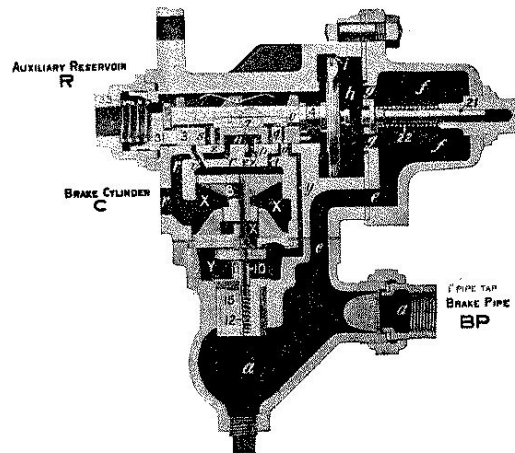
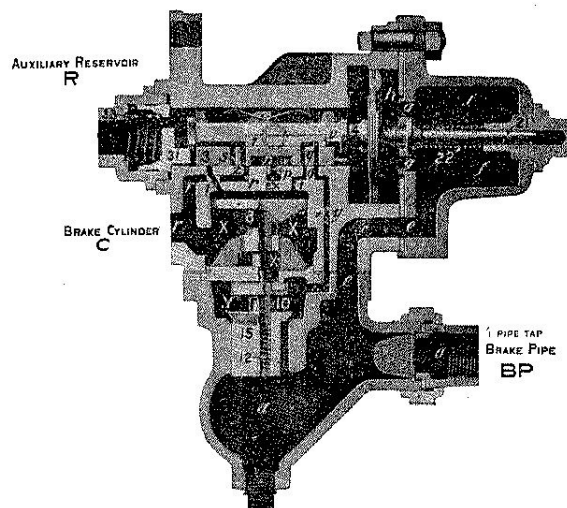
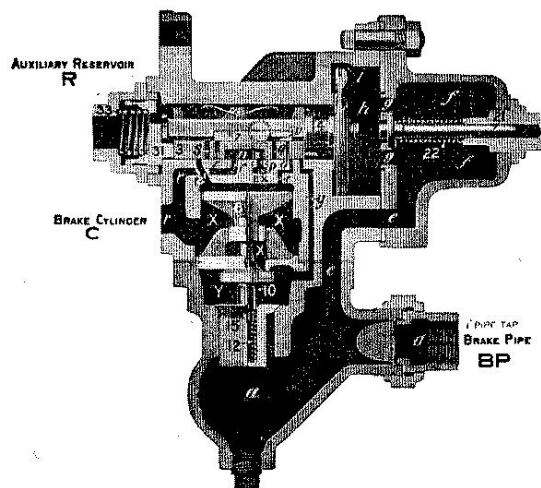

Fig. 13: Full Release and Charging Position.
Fig. 14: Quick Service Position.
Fig. 17: Retarded Release and Charging Position.
A. When air is admitted to the brake pipe it is free to enter the triple at "a" (see Fig. 13) and flow through the passage "e" to chamber "f", thence through port "g" to chamber "h" in front of the triple valve piston 4. Pressure forming in chamber "h" will force the piston to the left until its packing ring uncovers the feed groove "i" in the bushing, thus creating a communication between chamber "h" and the slide valve chamber. Brake pipe air will now be free to flow past the piston to the slide valve chamber and out at "R" to the auxiliary reservoir. Air will continue to feed through the groove "i" until the auxiliary reservoir and brake pipe pressures are equal, and it is then we say that the brake is fully charged. Brake pipe air entering chamber "a" will lift the check valve 15, and charge chamber "Y" to brake pipe pressure. When a gradual reduction of brake pipe pressure is made, as in a service application of the brakes, the pressure being reduced in chamber "h", auxiliary reservoir pressure will move the piston 4 toward service position. (See Fig. 14.) The first movement of the piston closes the feed groove "i", thus closing communication between the auxiliary reservoir and the brake pipe, preventing a back-flow of air from the auxiliary to the brake pipe, and at the same time moving the graduating valve 7, opening the service port "Z" in the slide valve. The continued movement of the piston will move the slide valve until the service port "Z" registers with the brake cylinder port "r" in the valve seat, thus creating a communication between the auxiliary reservoir and the brake cylinder. Air will now flow from the auxiliary to the brake cylinder until the pressure on the auxiliary side of the piston 4 becomes slightly less than in the brake pipe, when the piston and the graduating valve 7 will move back just far enough to close the service port "Z", thus closing communication [Pg 215]
The size of these ports are so proportioned that the flow of air from the brake pipe to the top of the emergency piston 8, is not sufficient to force the latter downward and thus cause an emergency application, but at the same time takes enough air from the brake pipe to cause a local reduction of brake pipe pressure at that point, thus assisting the brake valve in increasing the rapidity with which the brake pipe reduction travels through the train. The triple valve is now said to be in "Quick Service" position. (See Fig. 14.)
A. To release the brakes and recharge the auxiliary reservoirs, air is admitted through the brake valve to the brake pipe. This increase of pressure on the brake pipe side of the triple valve piston 4 above that on the other side causes the piston and slide valve to move back to release position, which permits the air in the brake cylinder to flow to the atmosphere, through the exhaust port of the triple, thus releasing the brake. At the same time, air from the brake pipe flows through the feed groove "i" around the triple piston to the auxiliary reservoir, which is thus recharged. Now the "K" triple valve has two release positions: **Full Release** and **Retarded Release**. To which of these two positions the parts will move when the brakes are released, depends upon how the brake pipe pressure is increased. It is generally understood that those cars toward the head end of the train, receiving the air first, will have their brake pipe pressure raised more rapidly than those in the rear; thus the friction of the brake pipe causes the pressure to build up more rapidly in the chamber "h" of the triple valve toward the front end of the train than in those in the rear. As soon as the pressure is enough greater than the auxiliary reservoir pressure to overcome the friction of the piston, graduating valve and slide valve, all three are moved toward the left until the piston stem strikes the retarding stem 31, which is held in position by the retarding spring 33. Where the rate of increase of brake pipe pressure is slow, it will be impossible to raise the pressure in chamber "h" sufficiently to overcome the tension of the retarding spring 33, and the triple valve will remain in full release position, as shown in Fig. 13. Brake cylinder air will now be free to exhaust through port "r", large cavity "n" in the slide valve and port "p" leading to the atmosphere. If, however, the triple valve is near the head end of the train, and the brake pipe pressure builds up more rapidly than the auxiliary can recharge, an excess of pressure will be obtained in chamber "h" over that in the auxiliary reservoir, and will cause the piston 4 to compress the retarding spring 33, and move the triple valve parts to retarded release position as shown in Fig. 17.